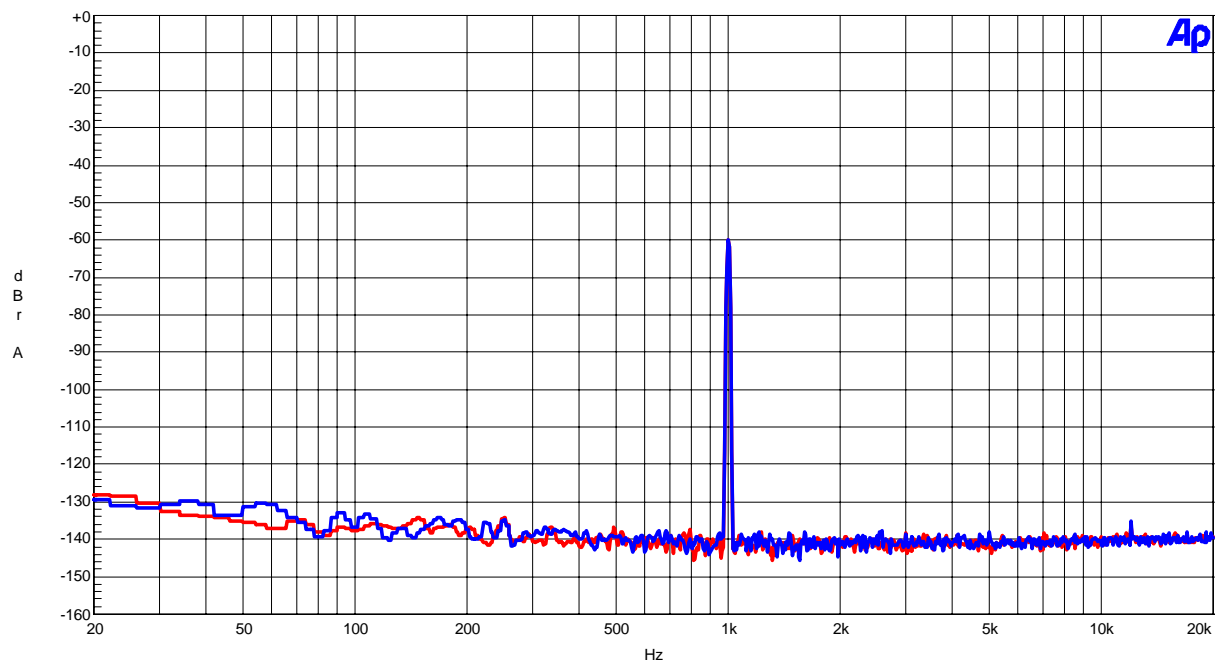

Figure 25. FFT(Input Frequency=1kHz, Input Level=-60dBFS)
- Figure 25. FFT (noise floor)